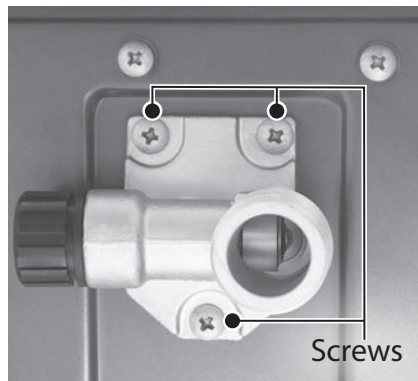

Figure 171 - Inlet assembly location
- 19** Locate the inlet assembly at the bottom right side of the water heater as shown in Figure 171.
- 20** Locate the three (3) screws securing the inlet assembly to the base of the water heater. Use a Phillips screwdriver to remove the screws. Place screws aside in a safe place for reinstallation. See Figure 171.